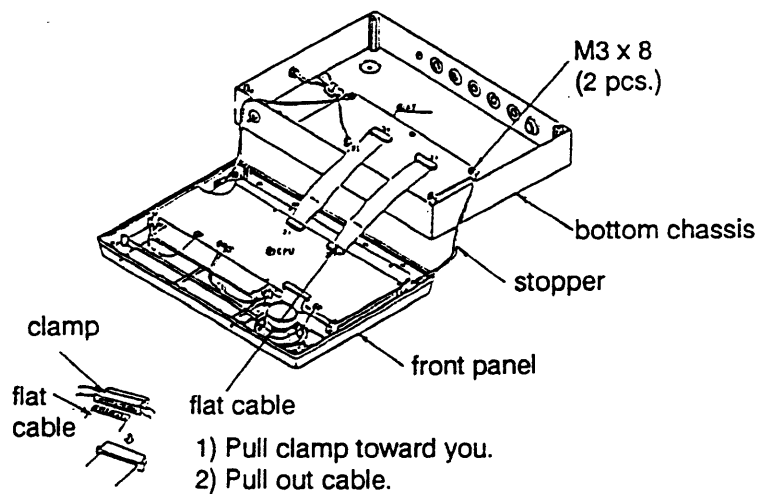

Fig. 3-8 Separating the Top and Bottom Chassis
2. Separate the bottom chassis from the top chassis by removing the two stoppers and two flat cables shown in Fig. 3-8.